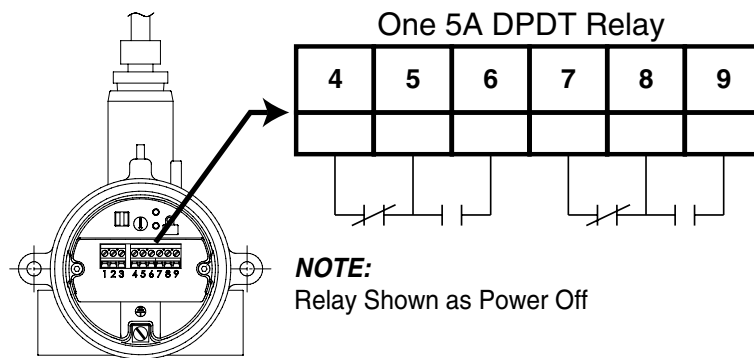

Figure 3-2
2. The relay contacts are brought out to terminal strips for external switching. *See Figure 3-2.*